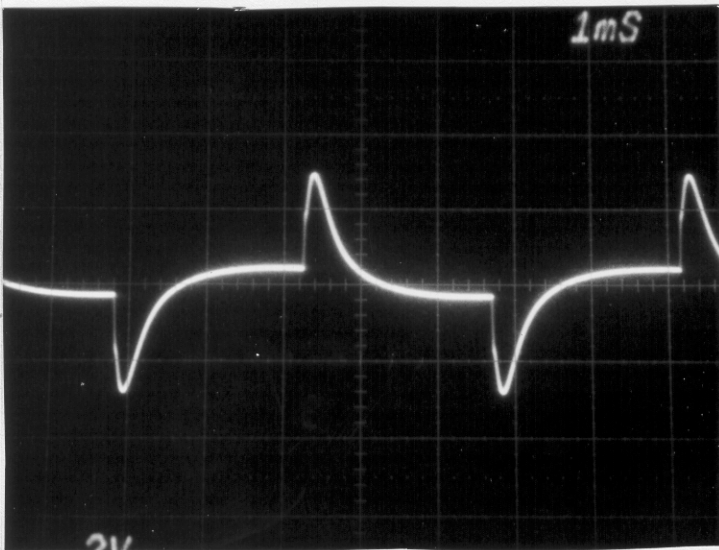
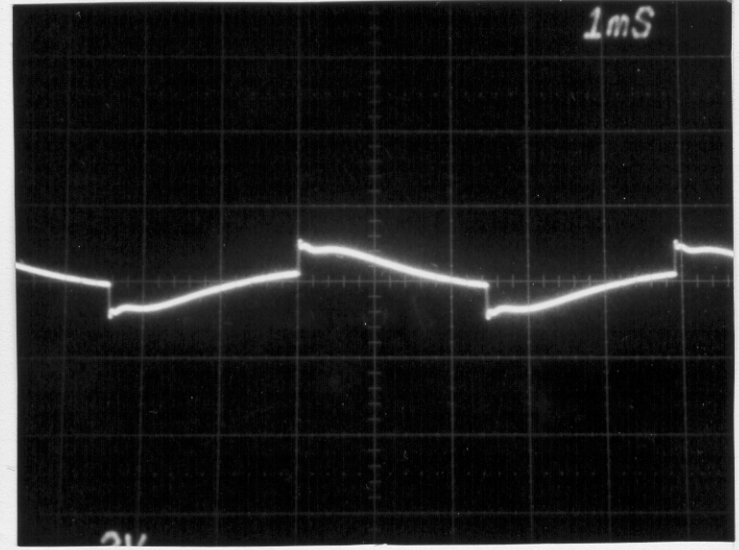

Fig. 5 Hi-mid on 10
Fig. 6 Hi-mid on 0
- B. HI-MID ON 10 = FIG. 5; HI-MID ON 0 = FIG. 6.